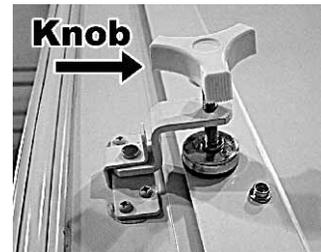

Fig. 7
1. Unscrew the knobs (Fig. 7) that hold the bed board in place to release the bed board.